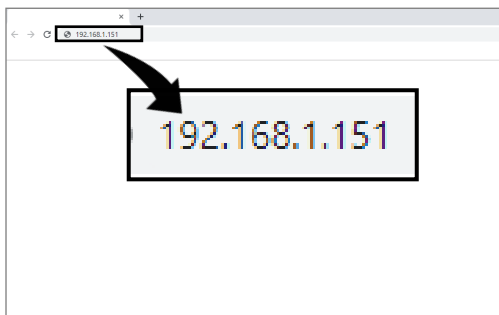

Fig 49. Type Default IP Address
2. Type the following default IP address into the URL field: **192.168.1.151** (Fig 49).